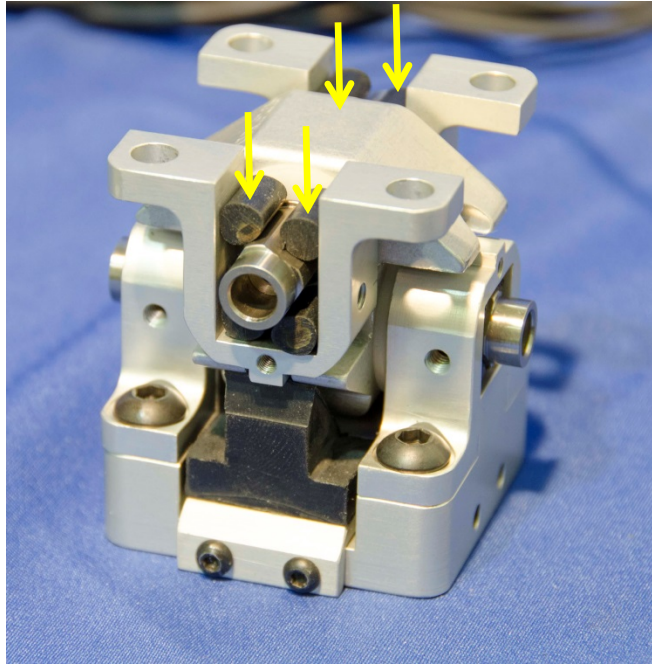

Figure 12-41. Install torque cylinders into top torque caps
- 12.2.2.24 Install two Torque Cylinders per side into the top of the torque caps (Figure 12-41).